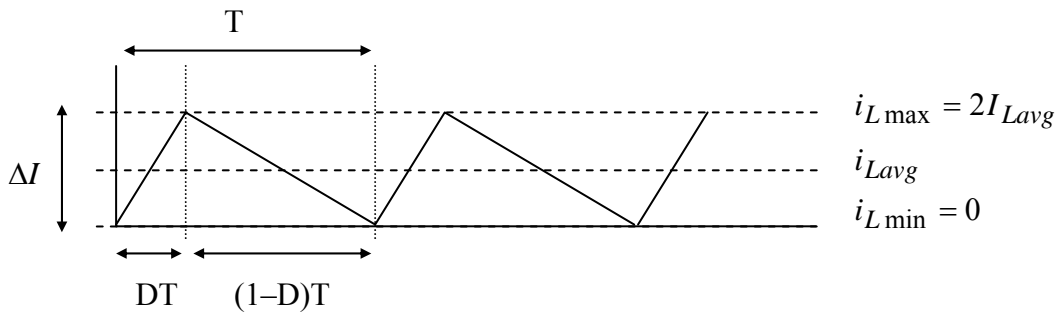

Figure 5. Inductor Current at the Boundary of Continuous Conduction
The boundary of continuous conduction is when  $i_{L\min} = 0$ , as shown in Figure 5.
Using Figure 5 and the “inductor discharging” slope from (3),